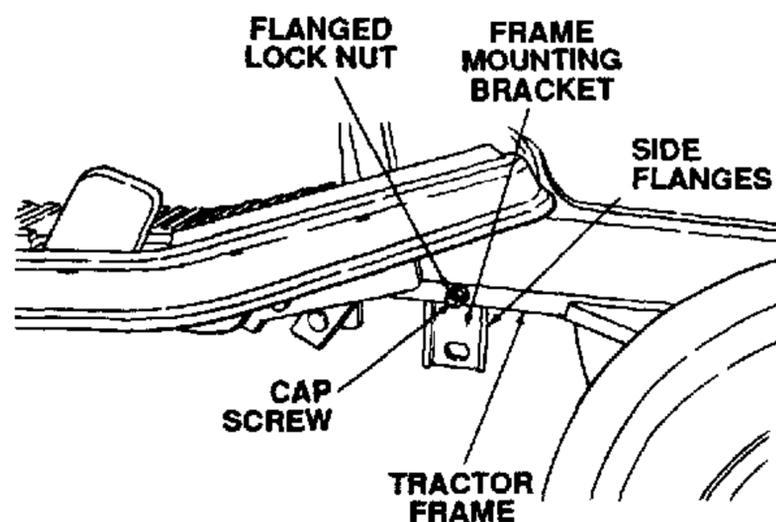

Figure 7-26. Installing Frame Mtg. Brackets
2. Install the frame mounting bracket (15, Fig. 7-24) onto each side of the tractor frame. Position the brackets (see Fig. 7-26) with the flanges facing outward from the tractor frame. Secure with the hex cap screws (16) and hex flanged lock nuts (17). Insert the cap screws from inside the tractor frame.